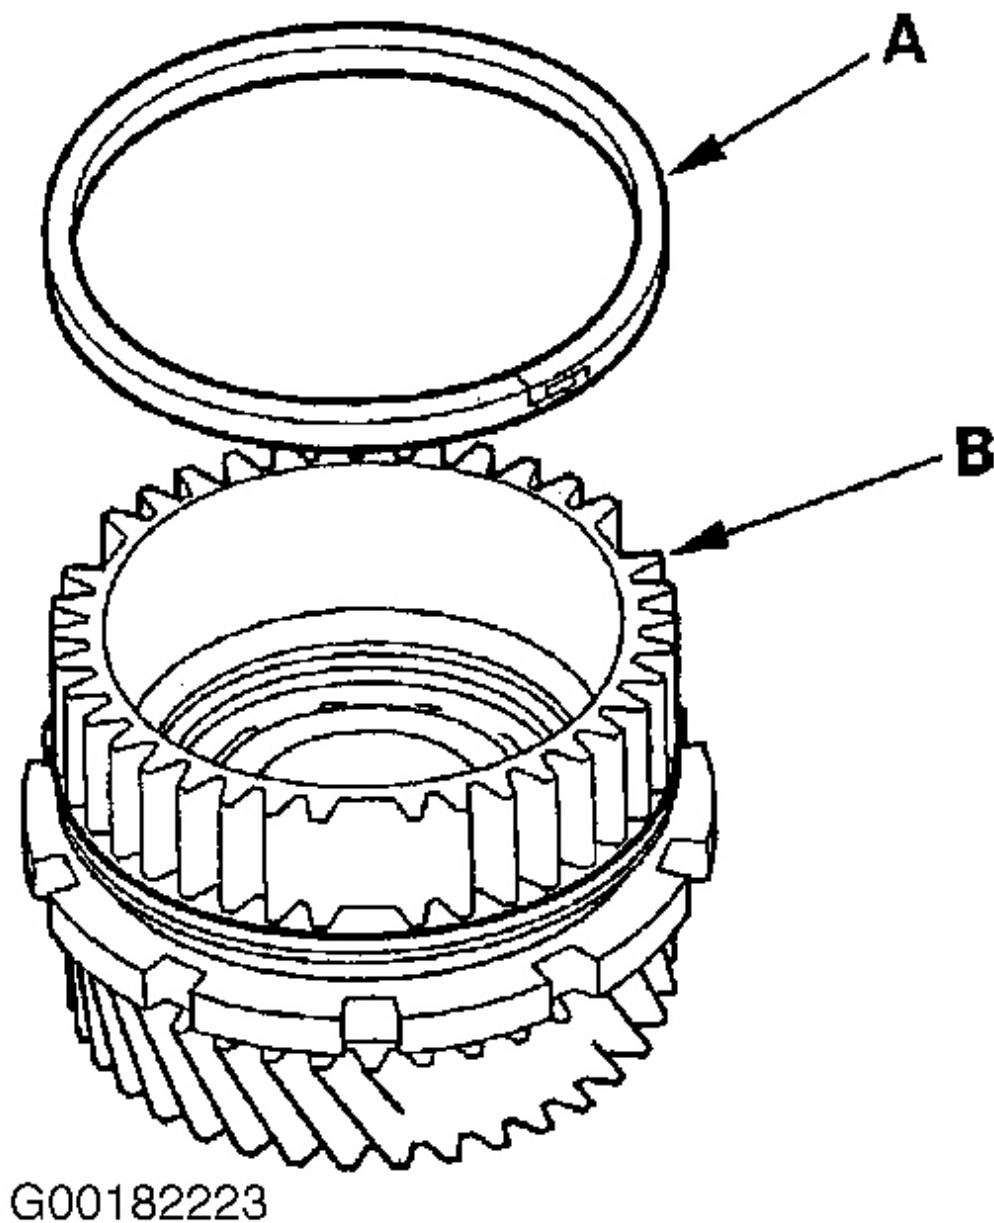

Fig. 38: Installing Sealing Ring On Secondary Drive Gear
13. Install sealing ring (A) on NEW secondary drive gear (B). See **Fig. 38** . Install parking pawl, parking pawl spring and parking pawl shaft on transaxle housing. Move control lever to any gear position except "P" position.